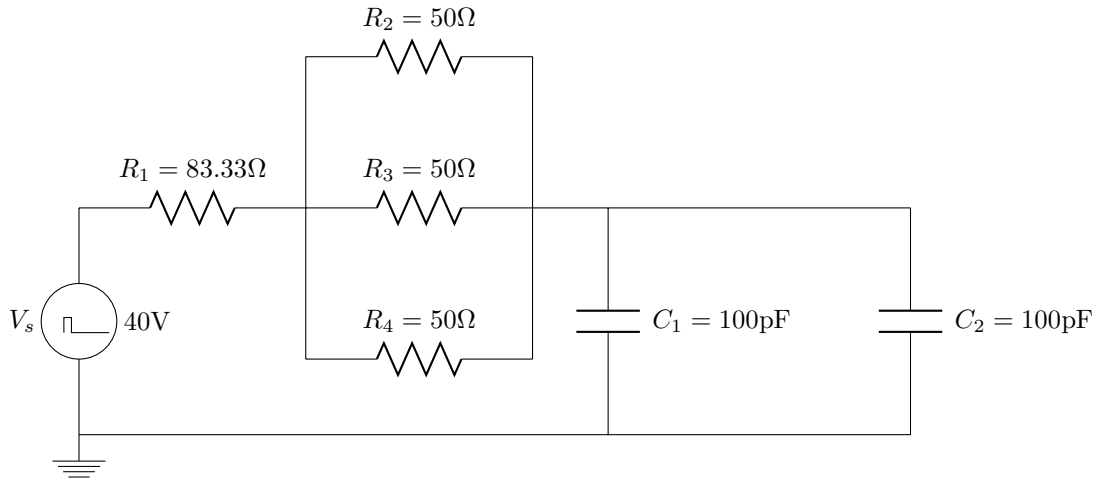

Figure 4:
1. Theoretical work for Figure 4 below:
2. Create the circuit in Figure 4 using Multisim. Use the full diagram rather than your reduced version. Remember to close the old design file and start a new one for this circuit. Save your drawing, print out a copy (make it small enough to fit nicely in your lab book!), and tape it into your lab book.